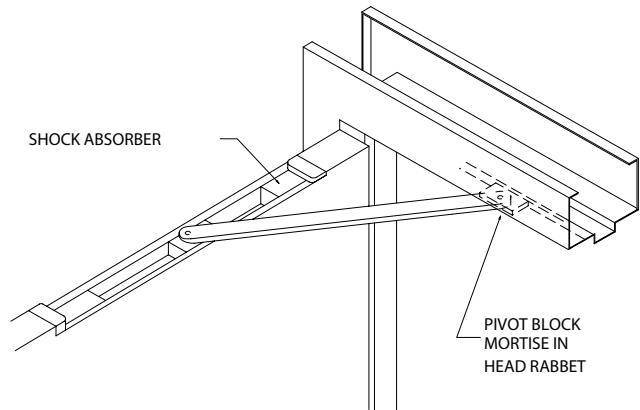

FIGURE 16c
2. Overhead Stops, Figure 16c and 16d, may be either concealed or surface applied, located at the top of the door with an arm connected to the head. These also limit the degree a door may be opened. Unlike the positive stop, this device has a shock absorbing spring which cushions the stopping action of the door, usually between 85 and 110 degrees.